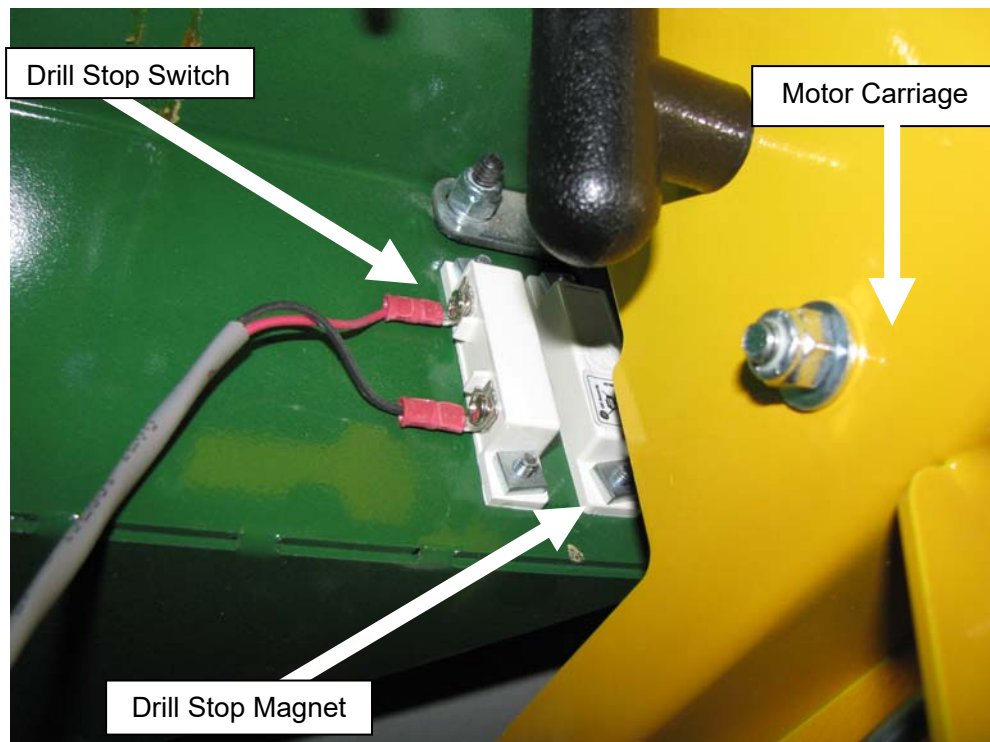

Fig 17
NOTE:: If the bar spring is out of position and on the wrong side of the carriage bolt, then router bit will be above the work surface and the drill bit will not extend when running a cycle. Reposition the bar spring to the correct position in Fig 17 to correct.
2. The Drill Stop Switch and magnet are located inside the machine on the back side of the Face Plate, slightly to the left of the Pilot Drill Hole. **See Fig 17.**